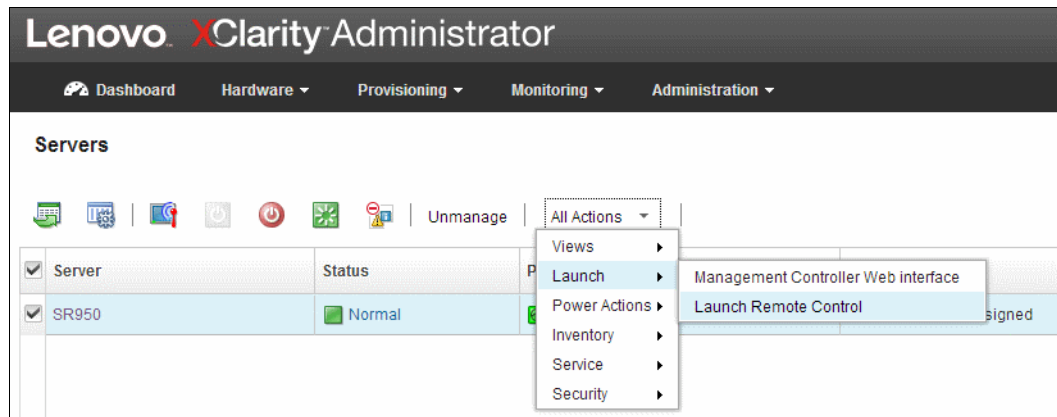

Figure 7-11 Launch remote control session
1. Select **Hardware** → **Servers**, select the server from the list, and click **All Actions** → **Launch** → **Launch Remote Control**, as shown in Figure 7-11 on page 231.